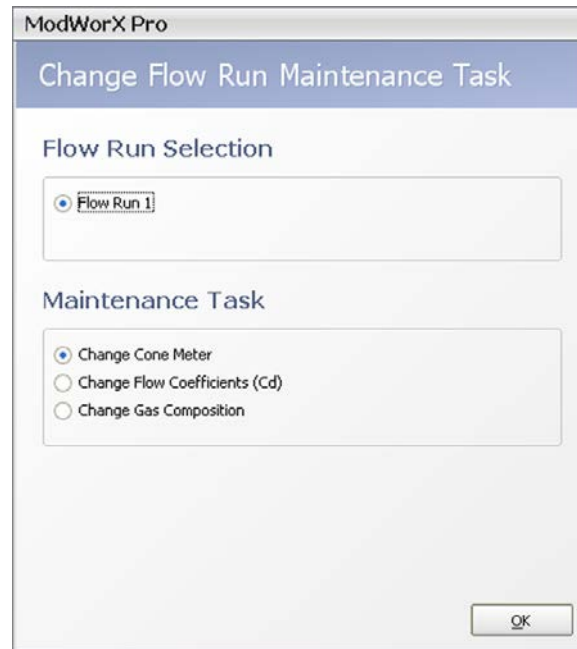

Figure 10.2
2. Click **Yes** at the Enter Maintenance Mode prompt. The Change Flow Run Maintenance Task screen will appear (Figure 10.2, page 135).